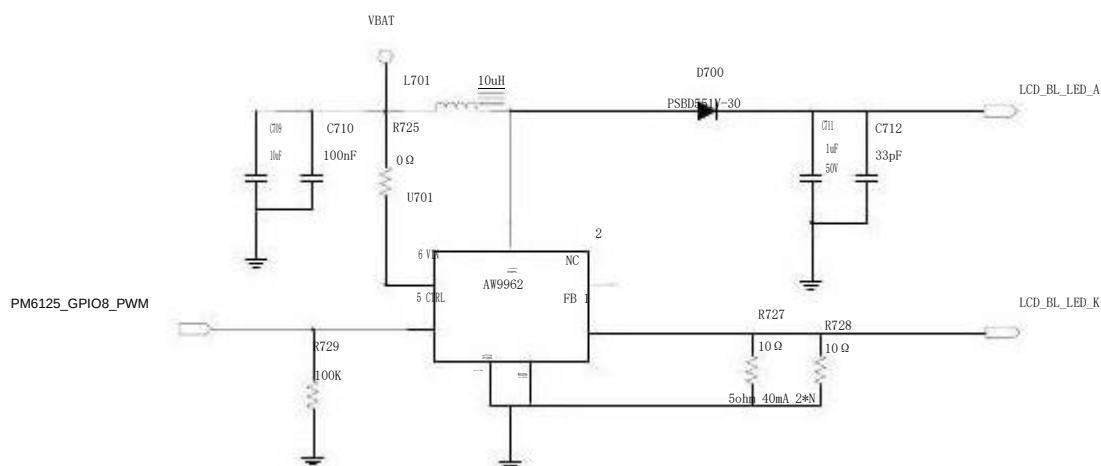

Figure 4.16 : External backlight circuit diagram
SLM920 module does not support backlight driver output, customers need to use external backlight driver. The backlight drive circuit can refer to Figure 4.16. The backlight brightness can be adjusted through PM6125_GPIO8_PWM (112) of the module , and the modulation mode is PWM mode.